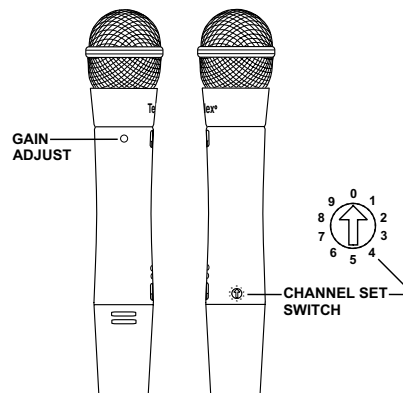

Figure 10
2. **Set handheld transmitter channel** to match the channel setting on the receiver (channel number displayed on front of receiver panel). The channel setting on the handheld transmitter is accessed through the round opening on the side of the mic housing. Numbers 0 - 9 are printed around the opening. The channel setting is determined by which number the arrowed slot is pointing to. Use a small screwdriver (supplied) to change the channel setting. See Figure 10.